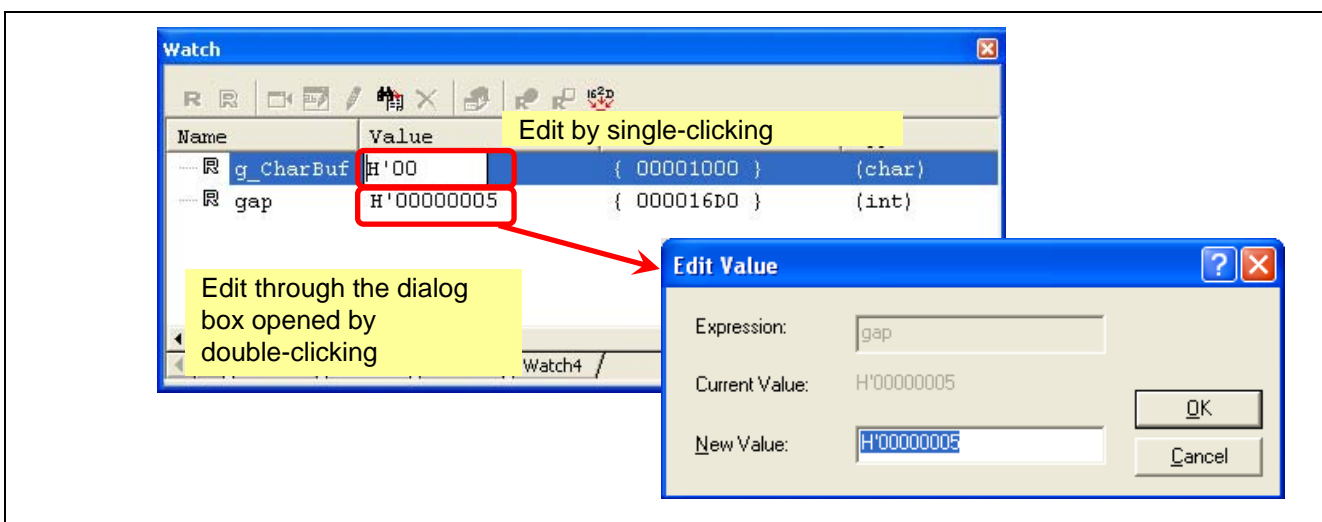

Figure 4.28 Modifying Values
- (8) Variable values can be modified in two ways as shown in Figure 4.28. One way is through in-place editing by single-clicking on the variable value. Another is through the dialog box opened by double-clicking on the variable.